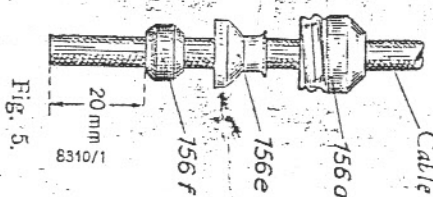

Fig. 5.
The cables are fixed to the distributor disc in the same way as to the ignition coil (see Figs. 5 and 6).
1. Pull cap nut 156 d, bushing 156 e and rubber packing 156 f over the cable end (cable end must project at least 20 mm) (Fig. 5).